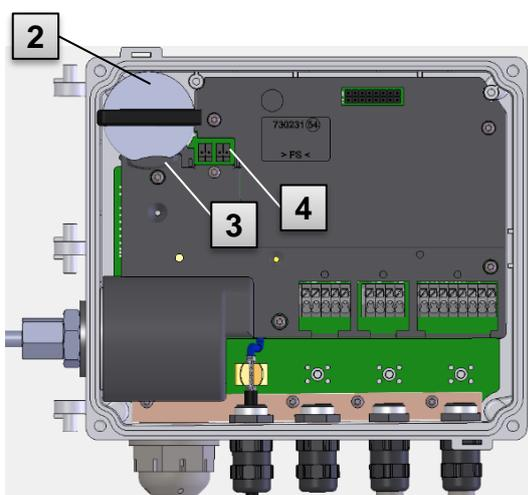

Fig. 25
4. Remove the battery (Fig. 25: **2**) from the battery holder (Fig. 25: **3**).
5. Select the free connection on the plate for connecting the new battery (K9 or K10; Fig. 25: **4**).
6. Place the new battery inside (Fig. 25: **2**) and ensure that the battery is correctly anchored in the battery holder.